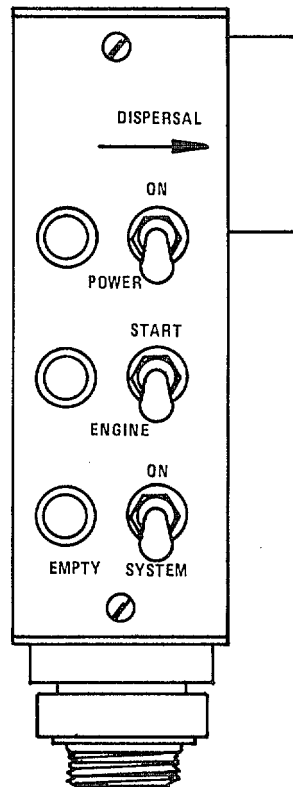

Figure 1-2. Hand Control Assembly
- b. The hand control (figure 1-2) operates the PDU from inside the helicopter. When the POWER switch is in the ON position, battery power is applied to the engine. When the ENGINE START switch is positioned to START and held, the starter is engaged to start the engine. After the engine is running, the ENGINE START switch should be released and the switch will spring to the run position. Pressing the DISPERSAL pushbutton will release the pesticide.